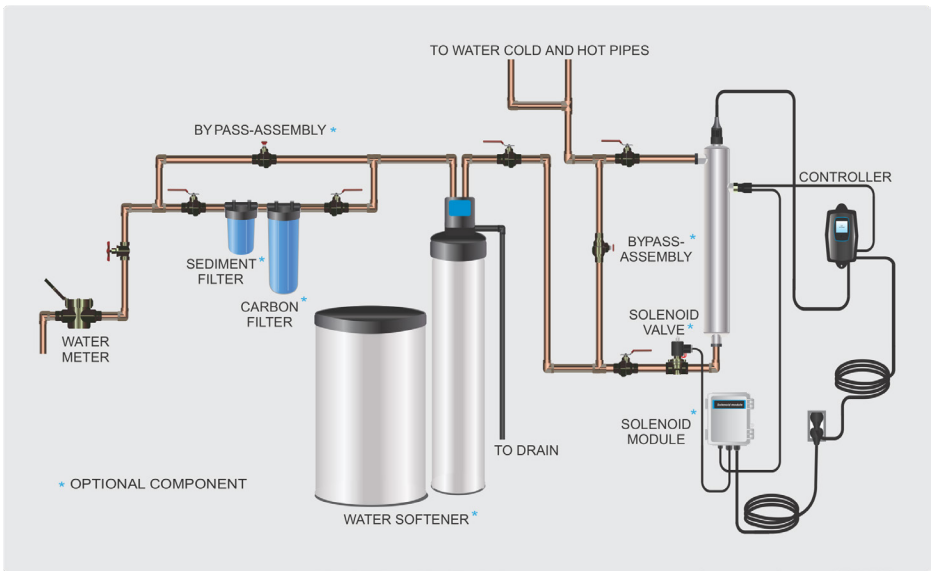

Figure 1. Recommended POE Installation Location
For Point of Entry (POE) systems, choose a location where the main cold water line is accessible. The system must be installed after other water treatment equipment (softener or filters), but before any branches (See Figure 1). For Point of Use (POU) systems, install the unit just before the faucet. Applied Membranes recommends that a 5 micron filter be installed **before** the UV system for a final polishing step before the water is disinfected.
Step 10: Mount the controller to the wall so it is above or beside the reactor to ensure that no moisture can deposit on any of the connections (see Figure 1). Always mount the controller vertically. For monitored systems, insert the sensor connector into the IEP port located on the right side of the controller (Figure 6). For the sensor to be recognized by the controller, the controller power must be plugged in last. **Do not plug the controller power cord in before the last step.**